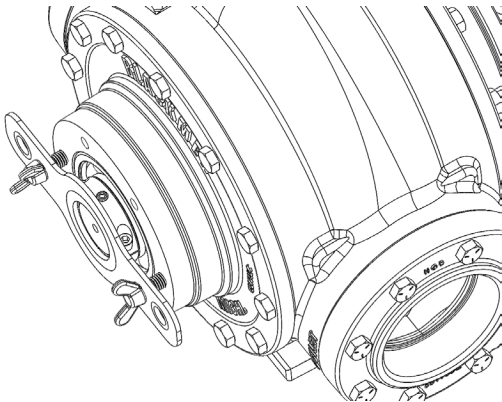

Figure 10 – Lock Collar Assembly, Outboard
- b. Starting with the Outboard side of the pump, attach the Lock Collar Adjustment Tool to the Outboard Head (23). See Figure 10. Align the inner hole pattern of the tool with the corresponding tapped holes in the head. Ensure that the large center hole of the tool is centered on the shaft.
- c. Slowly turn the Lock Collar Adjustment Tool screws, which will move the Lock Collar and Bearing towards the Outboard Head (23). Alternate between each screw so that even pressure is applied to the Lock Collar. Once the Bearing (24) stops moving into the head, is slightly recessed in the head bore, and the force required to turn the screws increases stop turning the screws.